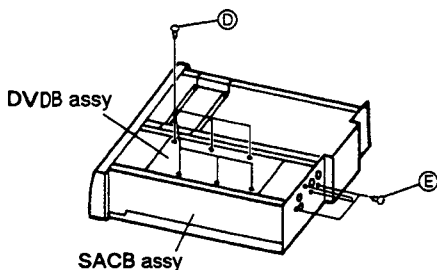

Fig. 8
4. Remove the six screws (D) stabilize the DVDB assy. (Fig. 8)
5. Remove the four screws (E) on the rear panel. (Fig. 8)